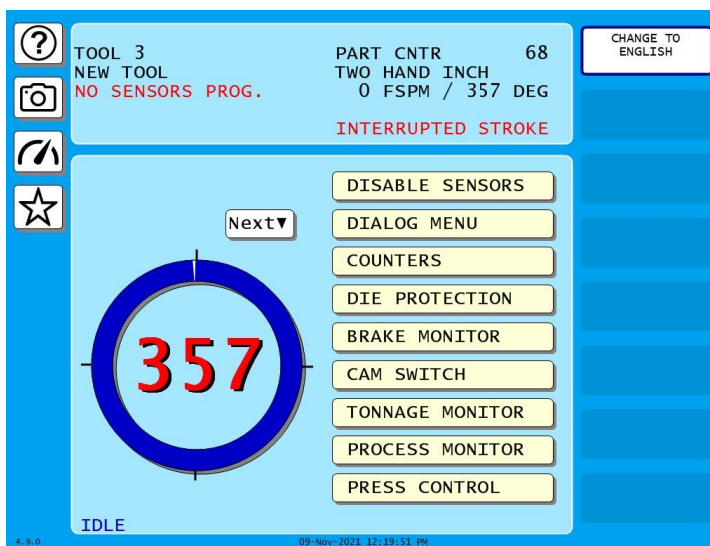

Figure 15. Main Run Mode Menu
- With the key set to “RUN Mode” the Main Run Mode Menu displays (see Figure 15). Depending on the options installed, you may need to advance to the next menu screen to view Oiler settings.
2. Select NEXT on the side of the Main Run Mode Menu (see Figure 15).